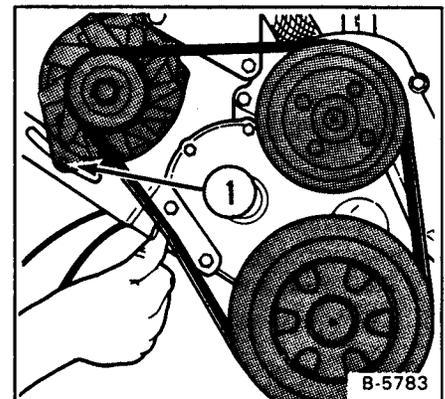

Fig. 1-23 Checking Belt Tension
- (2) Loosen adjustment bolt (Fig. 1-23, Item 1) and move the alternator to set the belt tension at 5/16" (7,94 mm) movement between pulleys with 15 pounds of force.
- (3) Tighten the adjustment bolt.
- (4) Install the belt shield.